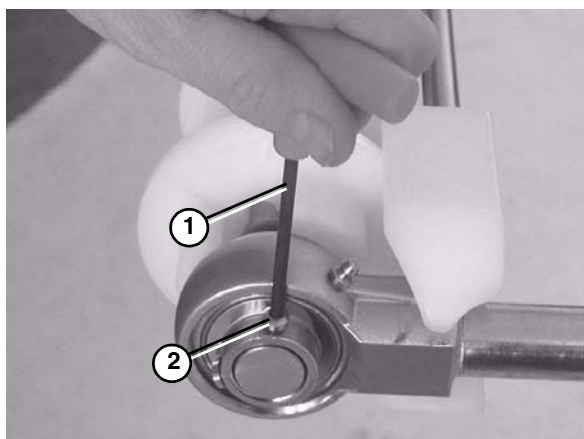

Figure 82
- Use a hex wrench (**Figure 82, item 1**) to tighten the bearing shaft fasteners (**Figure 82, item 2**) to 54 in•lbs (6 N•m). Check after 24 hours of conveyor use.